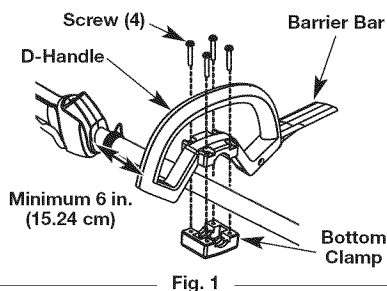

Fig. 1
2. Place the D-handle over the shaft housing and onto the bottom clamp (Fig. 1). Place it a minimum of 6 inches (15.24 cm) from the end of the shaft grip.